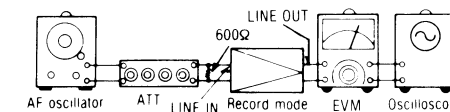

Fig. 16
1. Test equipment connection is shown fig. 16.